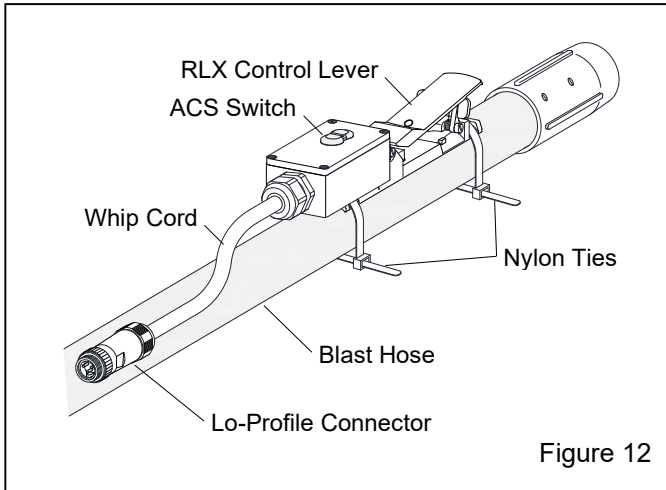

Figure 12
2.5.2 Install GW Electric RLX Control Handle to blast hose – Figure 12
2.5.2.2 Band the electric control handle to the blast hose at a comfortable location behind the nozzle holder, as shown in Figure 12. Use the two nylon ties provided or similar means to secure the control handle to the hose. Once the control is firmly attached, clip the tie ends so they do not snag the operator's clothing or interfere with the operation of the control handle.